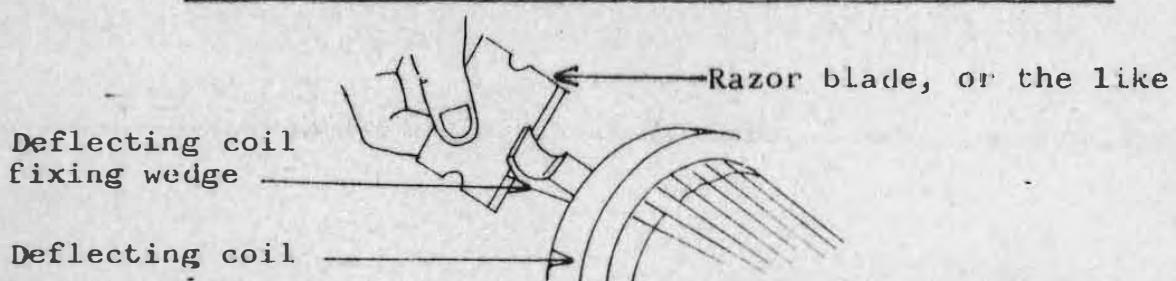

Fig. 2-2 Removing deflecting coil fixing wedge
- d. Move the deflecting coil forward little by little until the whole of the screen becomes red evenly. (If the deflecting coil fixing wedge is a hindrance, remove it as shown in Fig.2-2.) Confirm that the picture is not out of the center of the screen, longitudinally or laterally. If out, correct the picture's position by adjusting the purity magnet in a range of not deteriorating purity.)